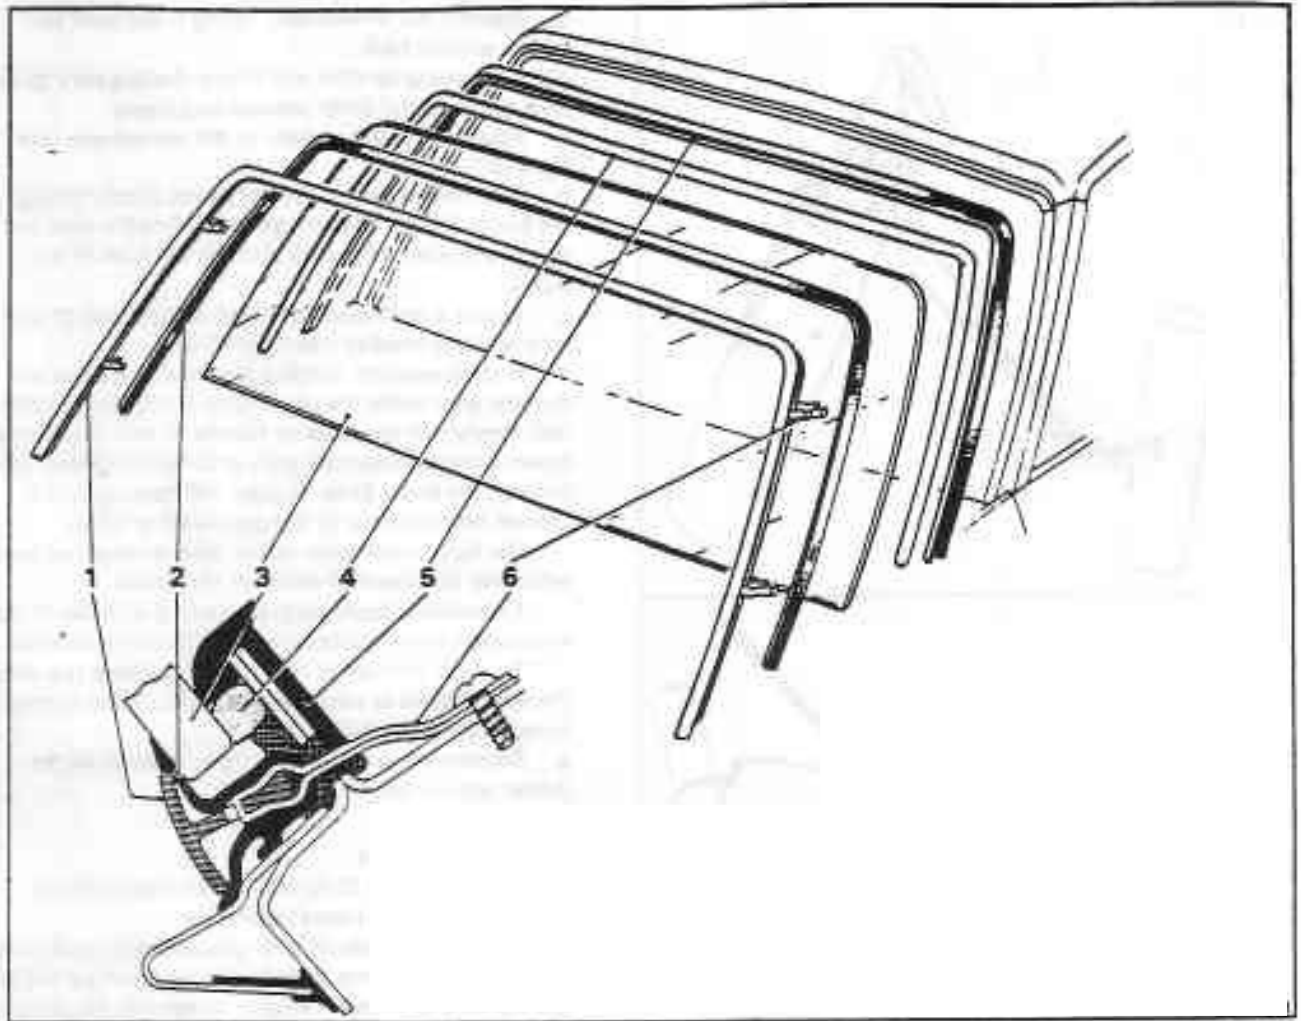

Fig. S10-5 General windscreen arrangement
17. Peel back and remove the inner spacing and finishing strip from the inside of the windscreen (see fig. S10-5, item 5).
18. Remove the screws securing the windscreen retention plates to the 'A' posts (see fig. S10-5).
retention plates from the aperture recess (see fig. S10-5, items 1,2 and 6). Take care to avoid damaging the paintwork or finisher during this operation.